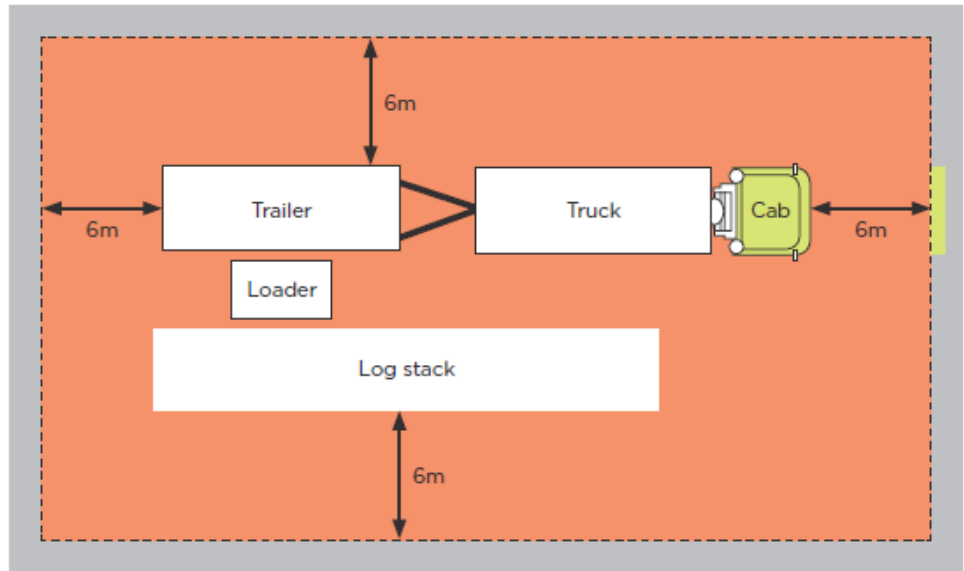

Figure 33: Safe loading zone
- 24.3.16 The loading zone where all persons on the ground are excluded from is shown in red (Figure 33). The loading zone is considered to be a minimum of six metres around the truck cab and trailer and log stack. If long logs are being loaded, this zone may need to be increased.